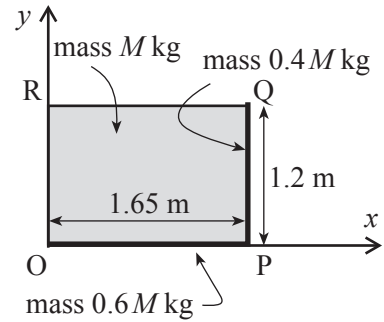

Fig. 3.1
- 3 Fig. 3.1 shows a thin planar uniform rigid rectangular sheet of metal, OPQR, of width 1.65 m and height 1.2 m. The mass of the sheet is M kg. The sides OP and PQ have thin rigid uniform reinforcements attached with masses $0.6M$ kg and $0.4M$ kg, respectively. Fig. 3.1 also shows coordinate axes with origin at O.